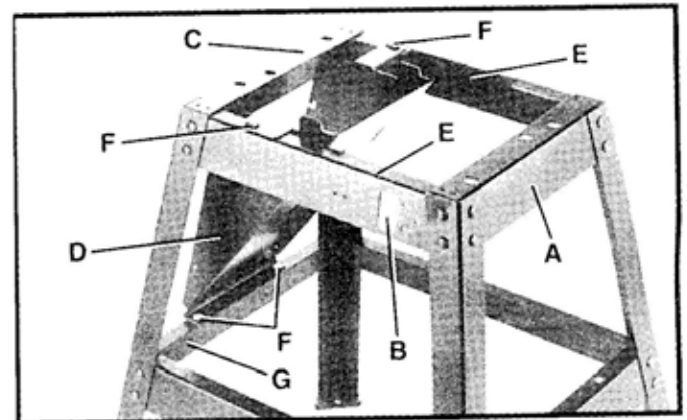

Fig. 6
1. The front of the stand is indicated by switch opening (B) Fig. 6, making the outfeed end of the stand (C) and the infeed end (A).
2. Assemble dust chute (D) Fig. 6, to outfeed end of stand (C) as shown, using four 1/2" long carriage bolts (F), flat washers, and hex nuts. Only tighten hex nuts fingertight at this time.